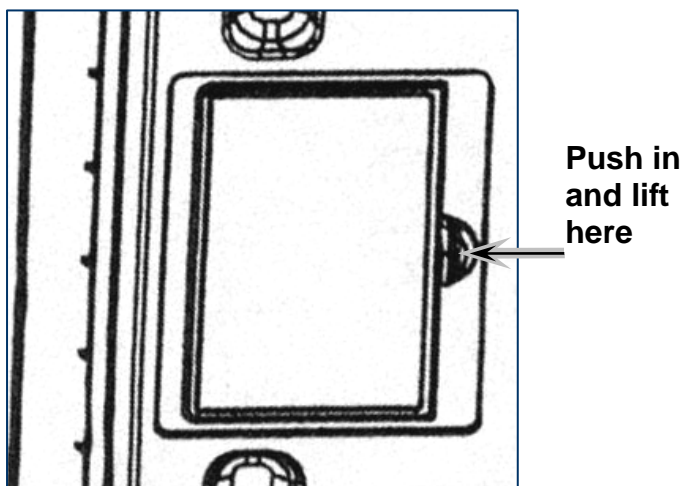

Figure No. 27
2. To install or replace the batteries, first remove the battery cover by pushing in on the tab and lifting it up. Refer to Figure No. 27.